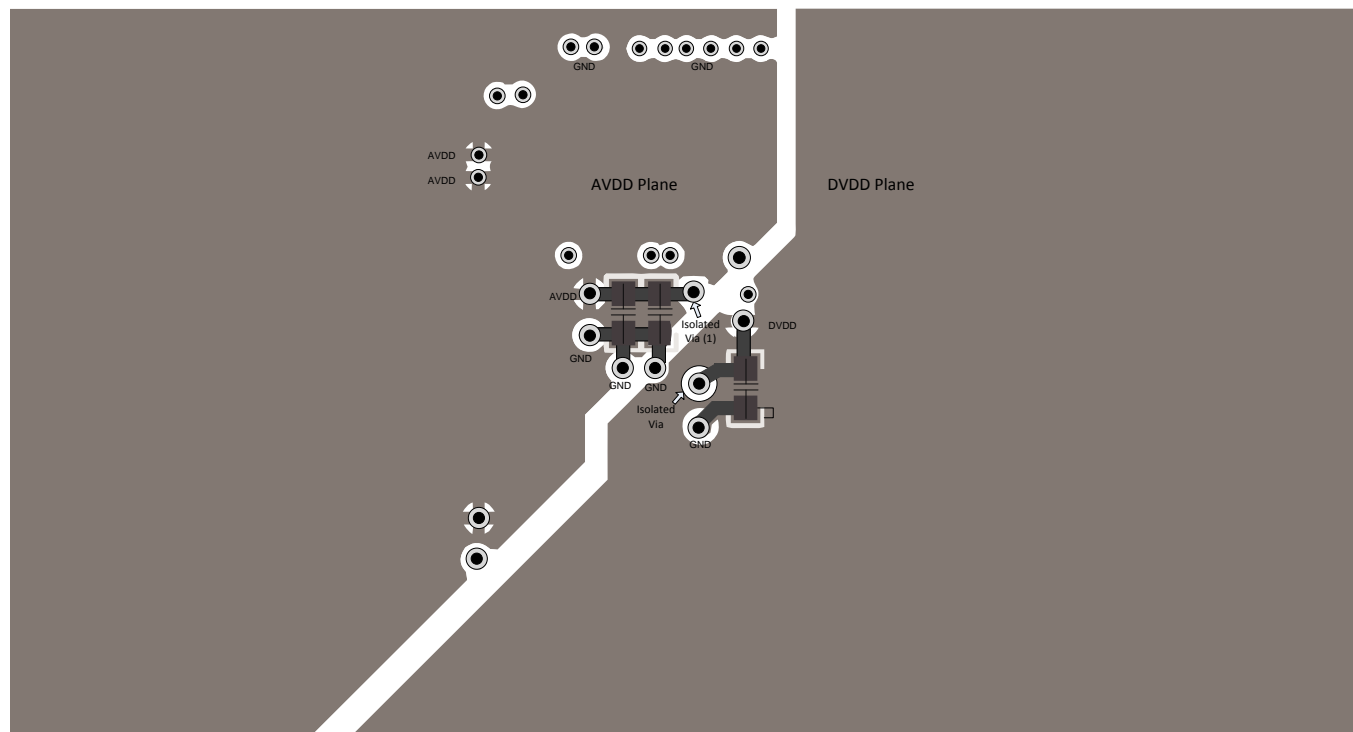

图 91. Bottom Layer Layout
- Power sources to the ADS8598S must be clean and well-bypassed. As a result of dynamic currents during conversion, each AVDD must have a decoupling capacitor to keep the supply voltage stable. Use wide traces or a dedicated analog supply plane to minimize trace inductance and reduce glitches. Using a 1- $\mu$ F, X7R-grade, 0603-size ceramic capacitor is recommended in close proximity to each analog (AVDD) supply pin. Bypass capacitors for AVDD pins 1 and 48 are located on the top layer; see 图 90. AVDD supply pins 37 and 38 are connected to bypass capacitors in the bottom layer using an isolated via (1); see 图 91. A separate via (2) is used to connect the bypass capacitor to the AVDD plane.
- For decoupling the digital (DVDD) supply pin, a 1- $\mu$ F, X7R-grade, 0603-size ceramic capacitor is recommended. The DVDD bypass capacitor is located in the bottom layer; see 图 91.